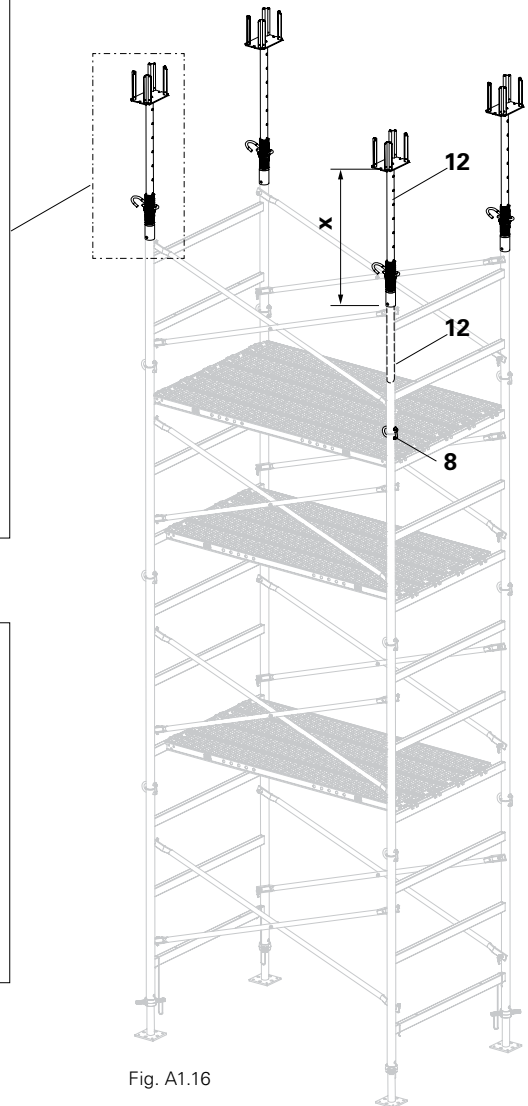

Fig. A1.16
2. Insert Crossheads 20/24 S (7) in the PD 5 Beam Spindles. (Fig. A1.16 + A1.16a)